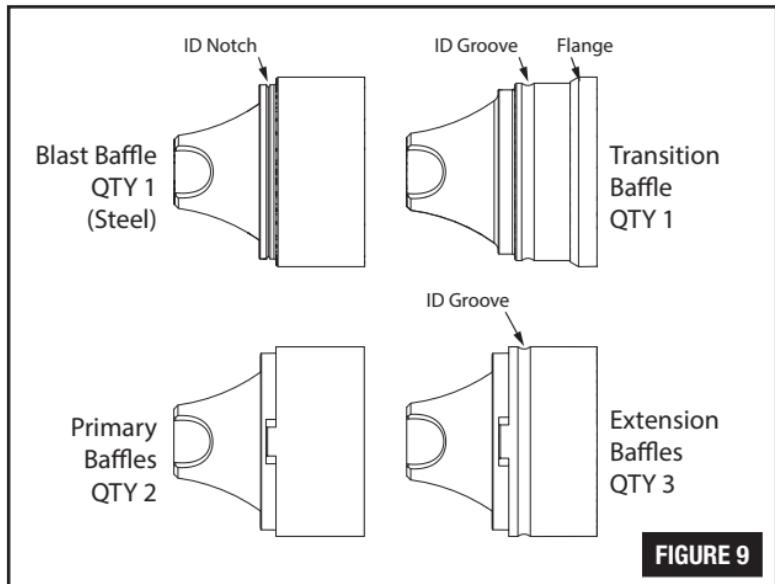

FIGURE 9
8. To Clean the L.I.D. (Linear Inertial Decoupler) unscrew the L.I.D. closer. Remove spring and piston (FIGURE 9). Use a nylon brush (or brass brush if necessary) and remove deposits with CLP (Cleaner, Lubricant, Preservative).
1. FIGURE 9 details the four types of baffles used in the Lunar®9 suppressor and how to identify them.